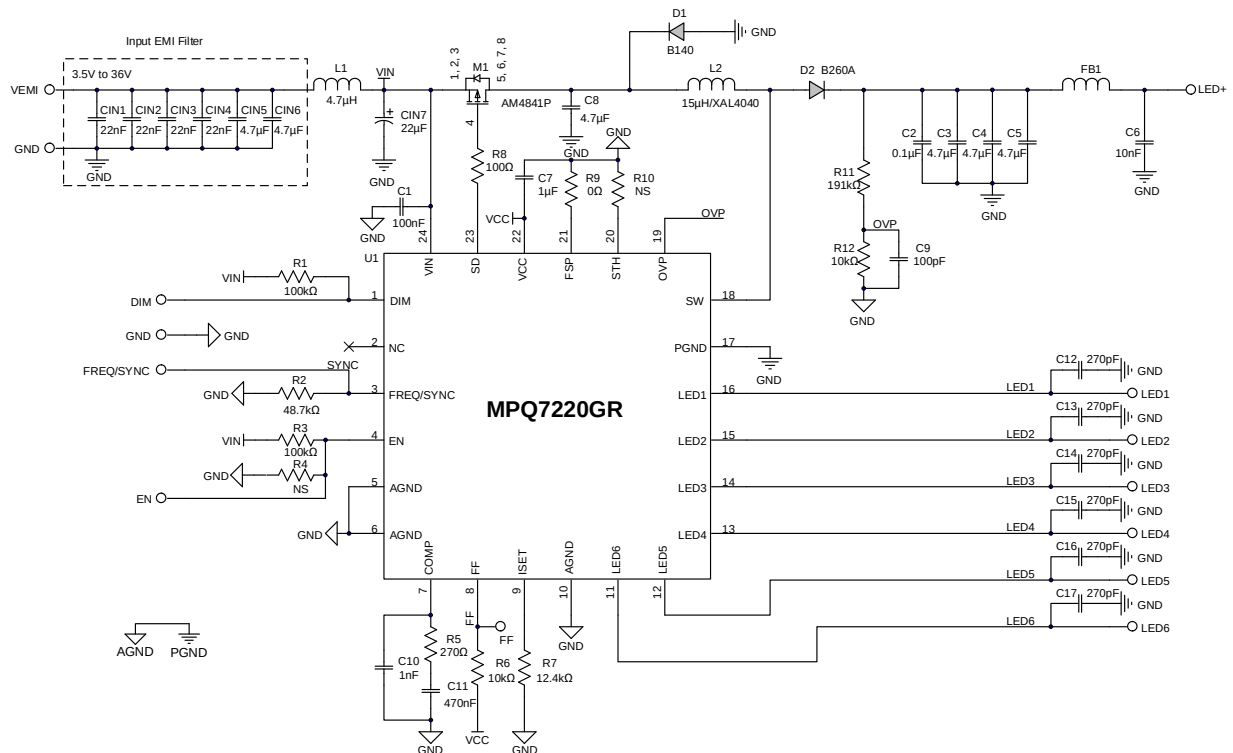

Figure 6: Typical Application Circuit for the QFN-24 Package with EMI Filters ($I_{SET} = 100mA$, $f_{SW} = 450kHz$)
10) The recommended PCB layout is based on Figure 6 on page 27.
Added Figure 6 and Figure 8; updated figure titles	27–28